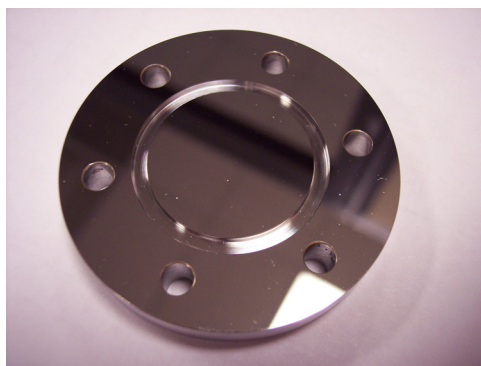

Figure B-3 Stainless steel mirror;
7. Obtain the new stainless steel mirror. Refer to Figure B-3.